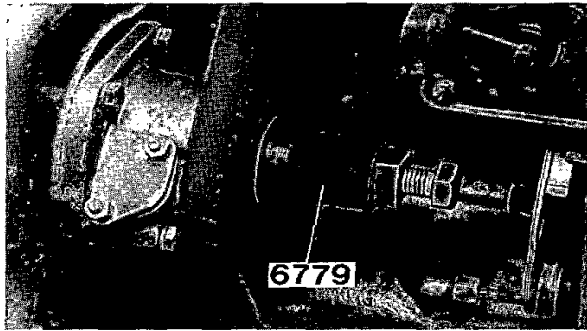

Fig. 142. Disassembling the sealing ring
5. Screw the puller 6779 into the sealing (fig. 142). Press on the puller so that its grooves cut into the steel ring on the sealing. Pull out the sealing by screwing in the bolt.